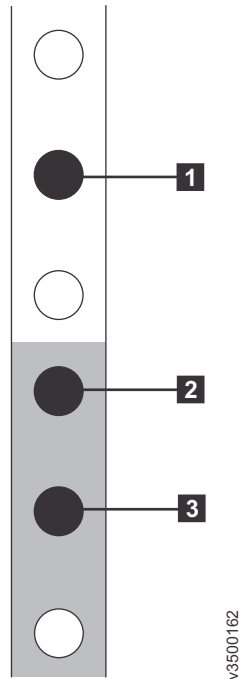

Figure 34. Hole locations in the front of the rack
4. Working at the front of the rack cabinet, identify the two standard rack units (2U) of space in the rack into which you want to install the support rails. Figure 34 on page 31 shows two rack units with the front mounting holes identified.